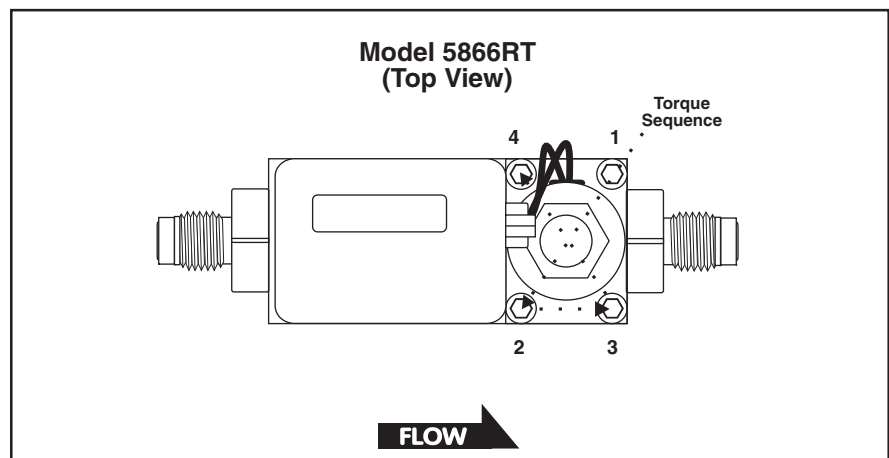

Figure 5-1 Torque Sequence for the Valve Retainer Plate
4. Install the orifice (12) and its O-ring (13) using a 3/8" nut driver. Insure that the orifice is fully seated but do not overtighten.
5. Insert the valve preload spacers (17, 18), if used, into the valve cavity in the controller body (1). Use care to preserve the correct order.
6. Install the valve plunger assembly (2, 3, 4, 14-16) on the preload spacers (10). Install air gap spacers, if used, on top of the valve spring (3).
7. Install the valve stem assembly (40), secure with the valve retaining plate (36) and four hex socket screws (41). When installing the screws, insure that the plate makes full contact all the way around the stem. Torque the screws securing the retaining plate in a diagonal pattern (refer to Figure 5-1) to 15 in-lbs.
8. Install the coil assembly (5) over the valve stem assembly (40) and secure with jam nut (8).
9. Install the printed circuit board (11), secure with the bracket (9) and two screws (10). Plug the connector from the sensor onto the printed circuit board.
10. Install the electronics cover (21) on the controller, secure with three screws (10) and the standoff. Plug the connector from the valve coil into the printed circuit board through the hole in the electronics cover.